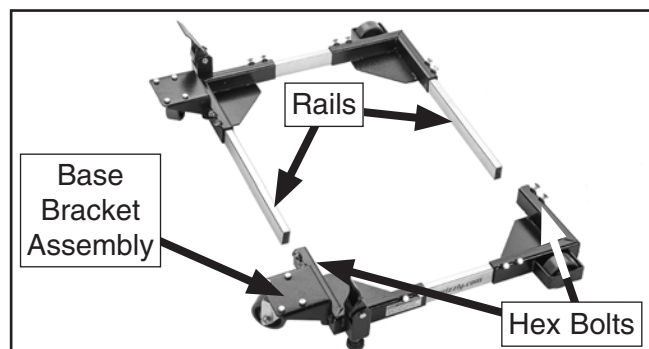

Figure 3. Model T28000 frame separated.
1. Loosen (4) hex bolts to separate T28000 Mobile Base bracket assembly from side rails (see **Figure 3**).